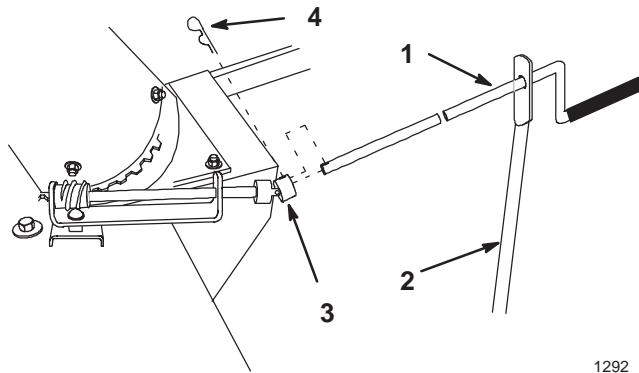

Figure 23
4. Remove the chute control rod by removing the hairpin cotter connecting it to the universal joint (Fig. 23). Slide the chute control rod out of the end of the crank support.